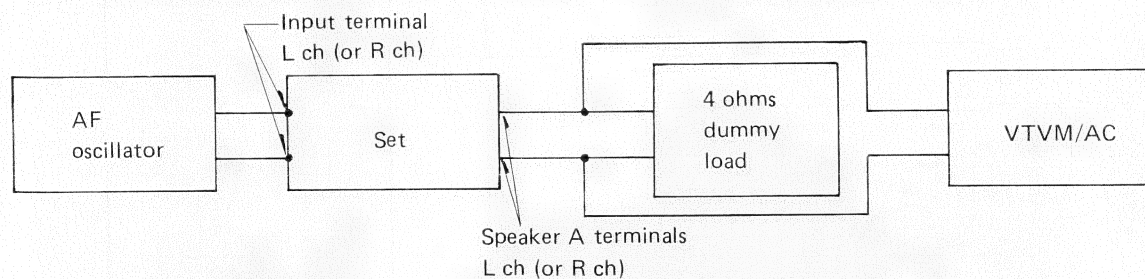

Figure 15
- (1) Set the meter range selector of peak-power-meter to xl ( ) position.
- (2) Set the speaker selector knob to SPEAKER A position.
- (3) Connect test equipment as shown in Figure 15.
- (4) Control the output of AF oscillator as the VTVM indicates 2V AC.
- (5) Adjust the indication of peak-power-meter to be 1W with SVR601 (L ch) and SVR602 (R ch).